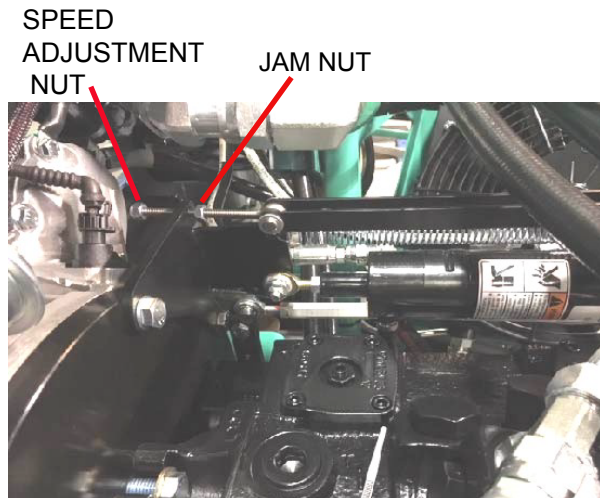

Figure 33. Left Side Trowel Speed Adjustment
4. Adjust speed limit screw and tighten jam nut (Figure 33).